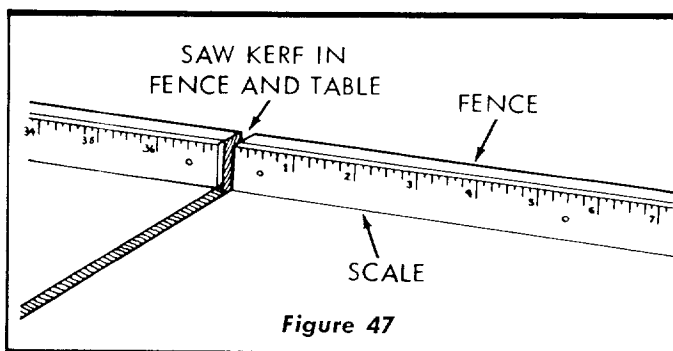

Figure 47
4. A scale may be attached to the fence to aid the operator when measuring lengths during cross-cut operations. This can be accomplished by tacking a yard stick to the fence as shown. (See figure 47.)